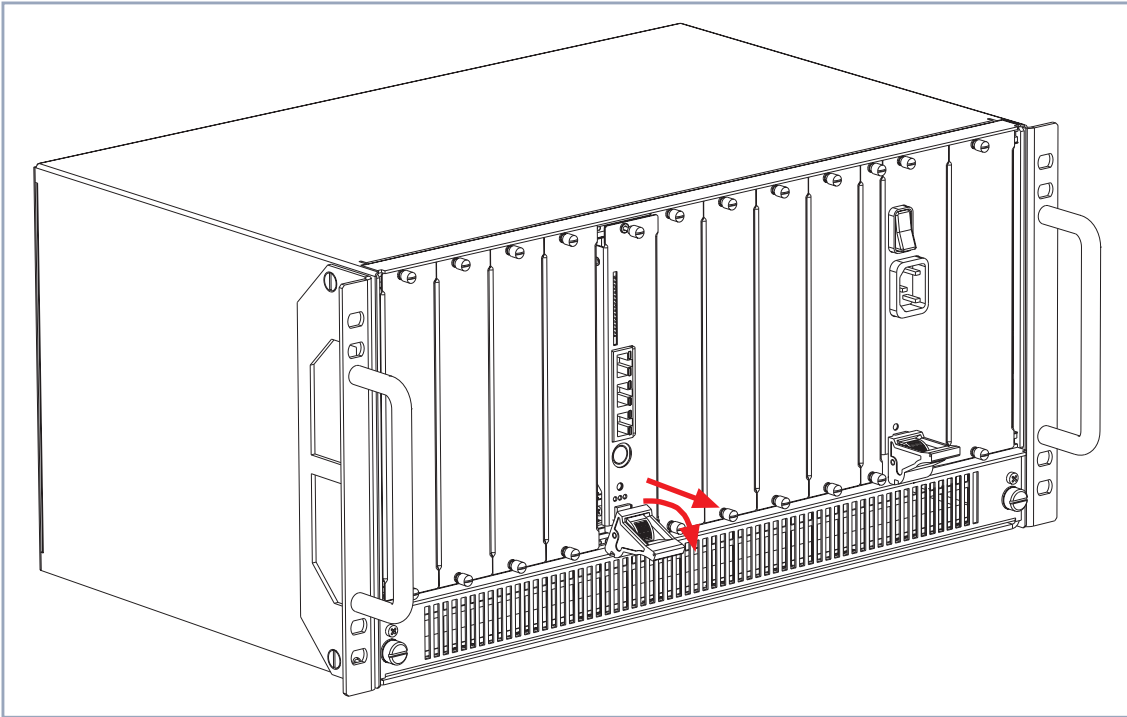

Figure 4-7: Removing an expansion card, step 2
- Push the injector/ejector handle further down until the expansion card comes out of its position (see figure 4-7, page 40).